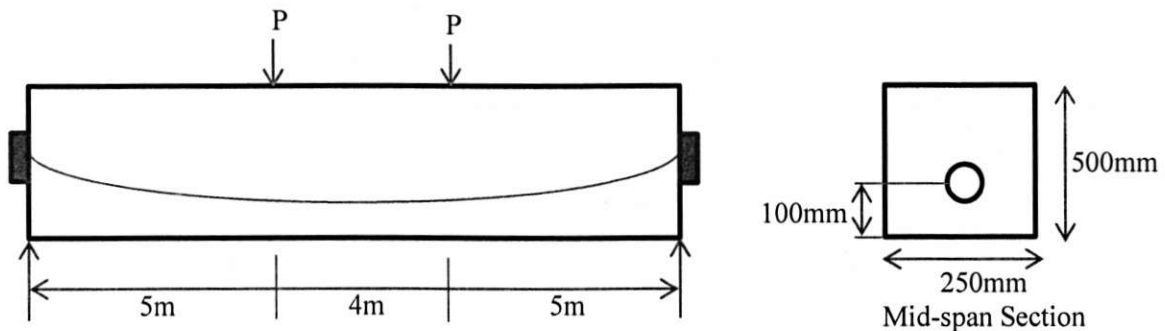

Figure: 1
1. A post-tensioned bonded concrete beam as shown in **Figure: 1** has a prestress of 1400 kN in the steel immediately after prestressing. After losses it eventually reduces and reaches 1300 kN. The beam carries two live loads of P kN each in addition to its own weight 3 kN/m. Under final stage when losses already have taken place and with full live load the extreme bottom fiber stress is 3.5 MPa. Compute the value of P . (10)